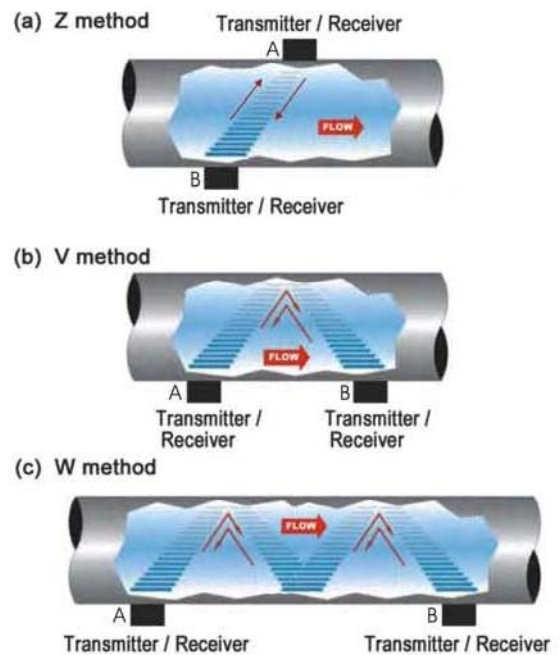

Figure 1
IS210 transit time flow meter utilizes two transducers that function as both ultrasonic transmitters and receivers. The transducers are clamped on the outside of a closed pipe at a specific distance from each other. The transducers can be mounted in V-method in which case the ultra sound transverses the pipe twice, or W-method in which case the ultra sound transverses the pipe four times, or in Z-method in which case the transducers are mounted on opposite sides of the pipe and the ultra sound transverses the pipe only once. The selection of mounting method depends on pipe and liquid characteristics. When the flow meter works, the two transducers transmits and receives ultrasonic signals amplified by multi beam which travels firstly downstream and then upstream (Figure 1). Because ultra sound travels faster downstream than upstream, there will be a difference of time of flight(Δt). When the flow is still, the time difference (Δt) is zero. Therefore, as long as know the time of flight both downstream and upstream, we can work out the time difference, and then the flow velocity (V) and flow volume (Q) via the following formula.